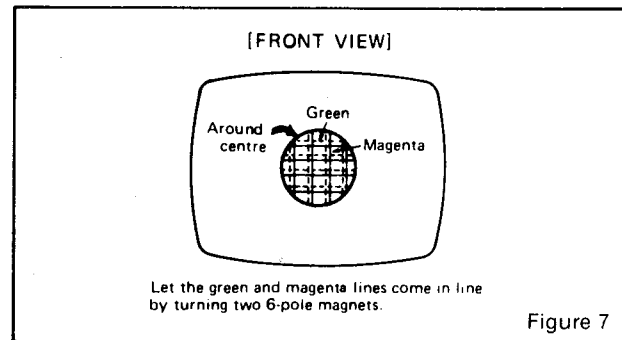

Figure 7
- 2.6 Turn on green input to obtain magenta (red/blue) and green crosshatch lines. Rotate and spread tabs of the 6-pole (rear) pair of magnets to minimize separation of the magenta and green lines (figure 7). Vary angle between the two tabs and further rotate as a unit to finalize.